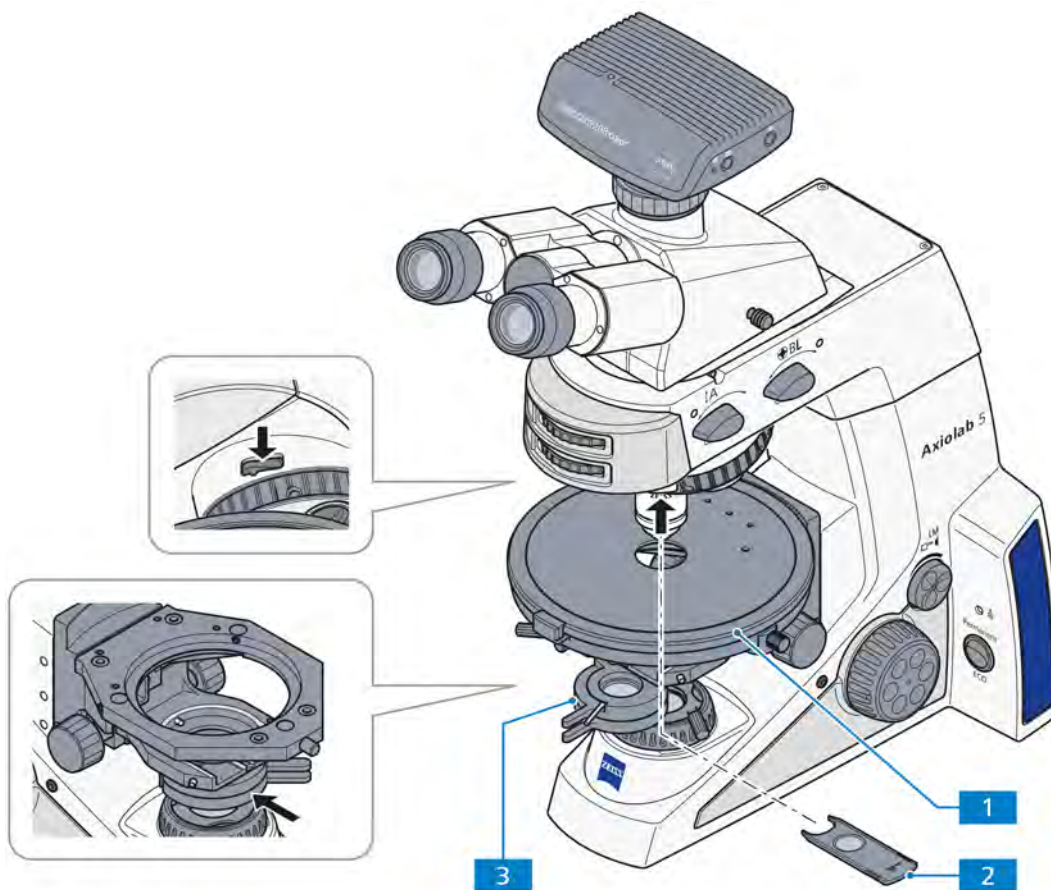

Fig. 4-13 Components for transmitted light polarization on the conoscopy stand
(3) Configuring the microscope
- Configure the microscope as for transmitted light brightfield microscopy using the KÖHLER method (see section 4.2.1 (3)).
- Center the Pol rotary stage (Fig. 4-13/1) (see section 3.1.7.5) and objectives (see section 3.1.7.6).
- Swing the polarizer (Fig. 4-13/3) into the beam path and, if it is rotatable, position it at 0° .
- Put the analyzer slider (Fig. 4-13/2) into the beam path and adjust it using the setting wheel until the field of view is dark.
(2) Equipment configuration for Axiolab for conoscopy
- Pol rotary stage (Fig. 4-13/1)
(3) Configure the microscope
- Configure the microscope as for transmitted light brightfield microscopy (see section 4.2.1 (3)), taking care to ensure the correct inter-pupillary distance in the binocular tube (see section 4.1.1).